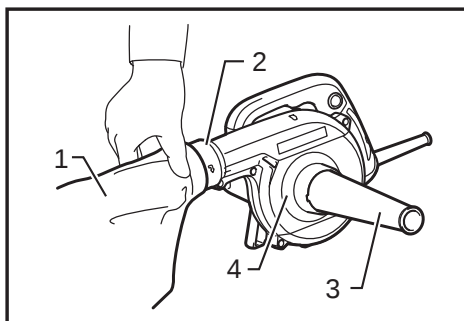

Fig.5
► **Fig.5:** 1. Dust bag 2. Blower outlet 3. Nozzle